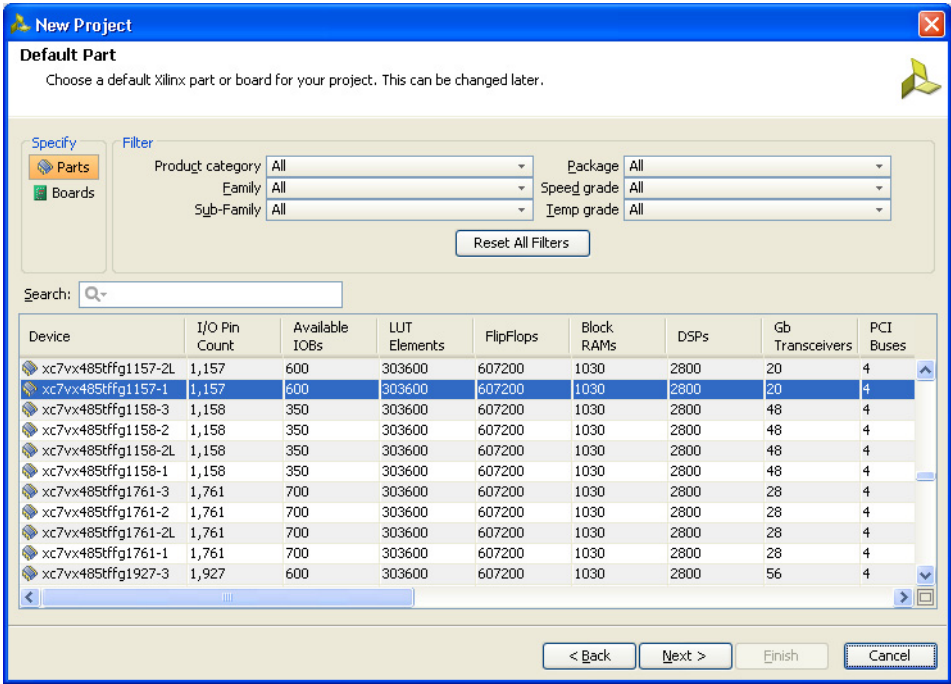

Figure 4-8: Default Part (Default Window)
8. Click **Next** to proceed to the Default Part page (Figure 4-8) where the device that needs to be targeted can be selected. The default Part page appears as shown in Figure 4-8.